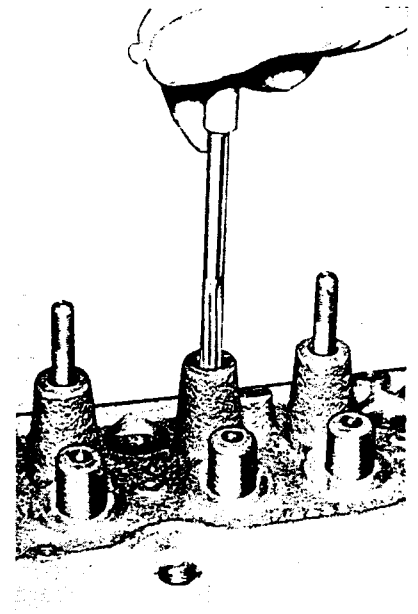

Figure 8-1-12
b. Ream hole for oversize stud, using tool J-5715 for 0.003" oversize and tool J-6036 for 0.013" oversize (see Figure 8-1-12).